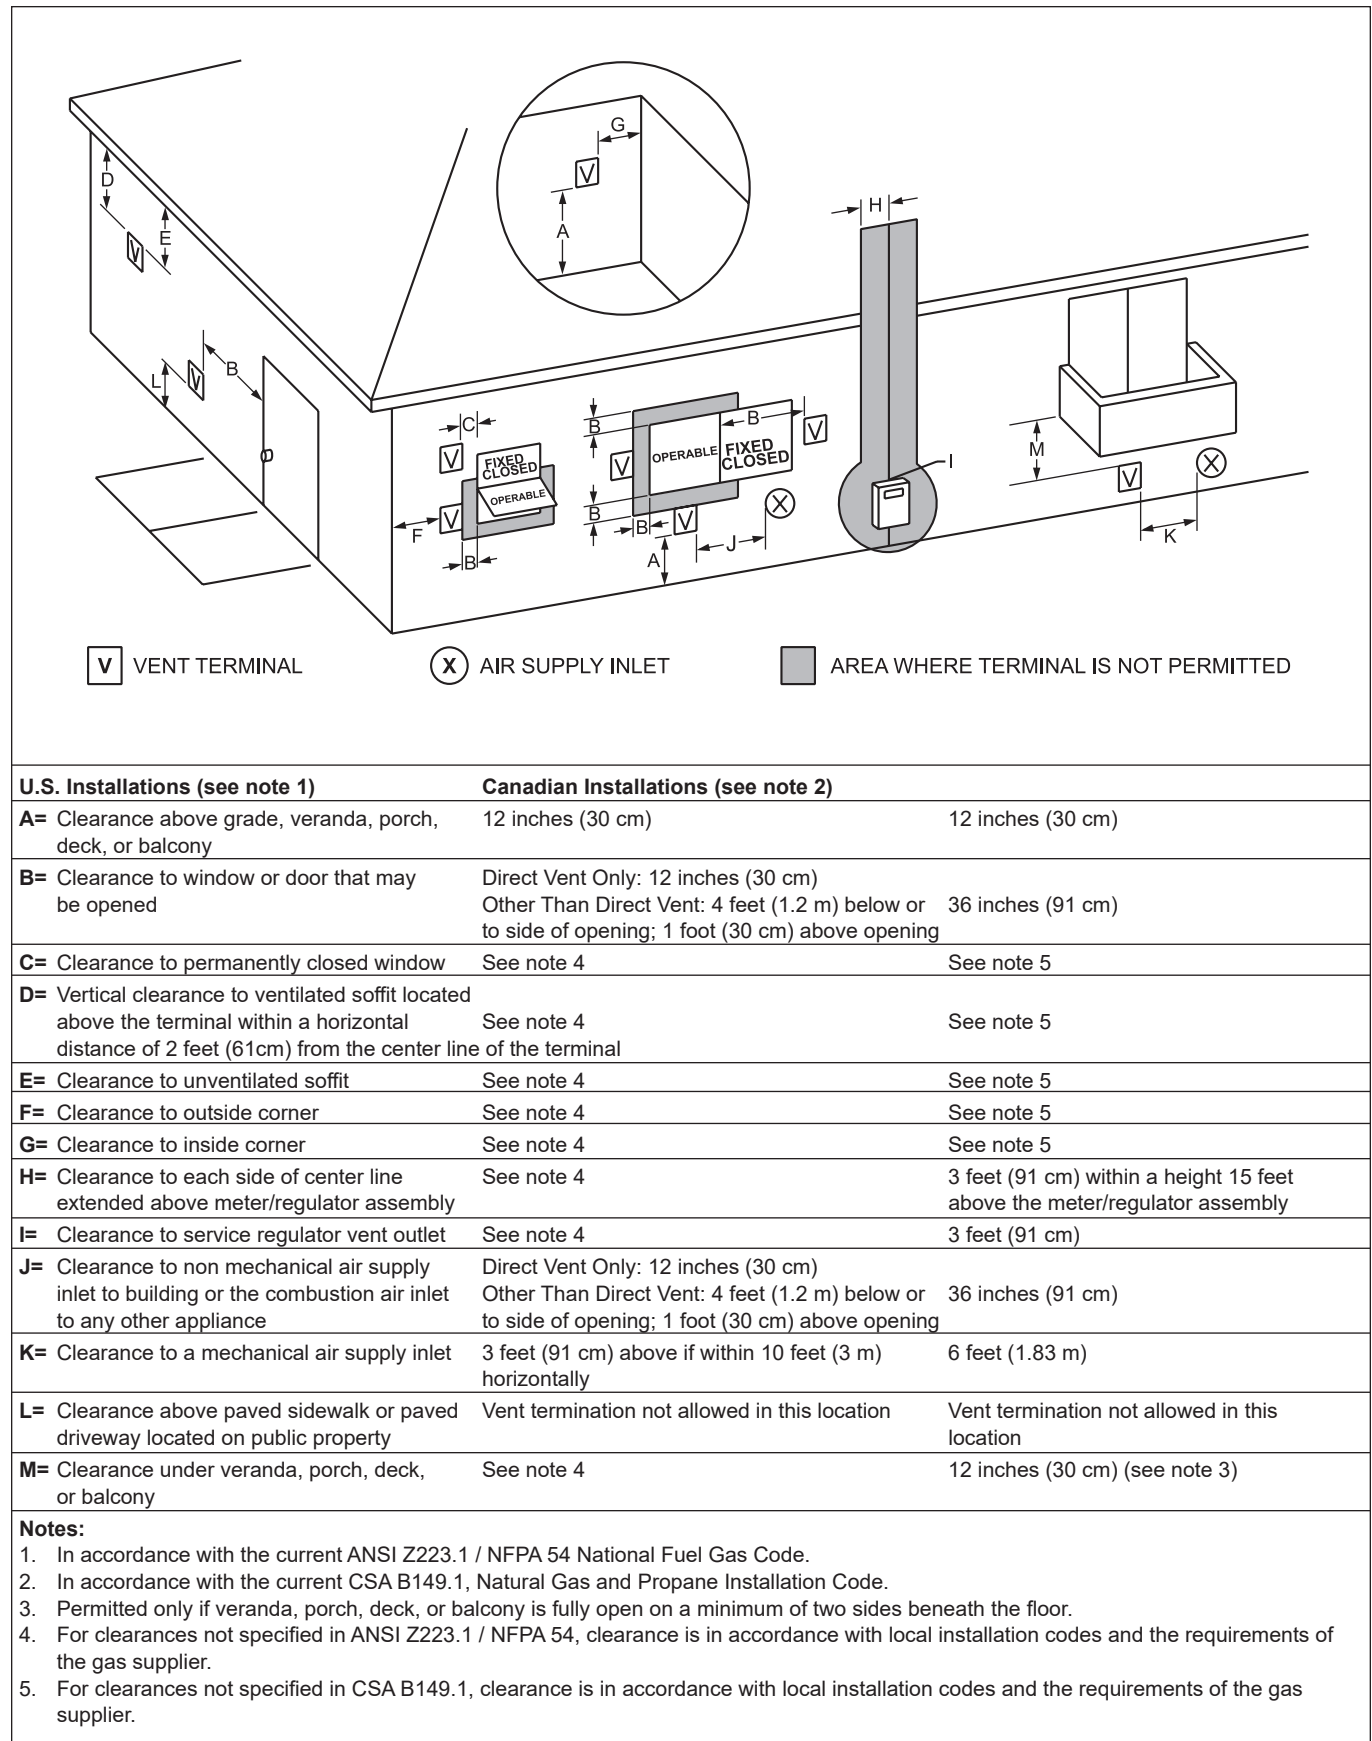

Figure 4. Vent Terminal Clearance.
1. Figure 4 shows the requirements for mechanical vent terminal clearances for the U.S. and Canada.
4. If the Mighty Therm2 is side-wall vented to the same wall, locate the vent terminal at least 3 feet (0.9m) horizontally from the combustion air terminal, and locate the vent terminal at least 1 foot (0.3m) above the combustion air terminal (see Figure 4).